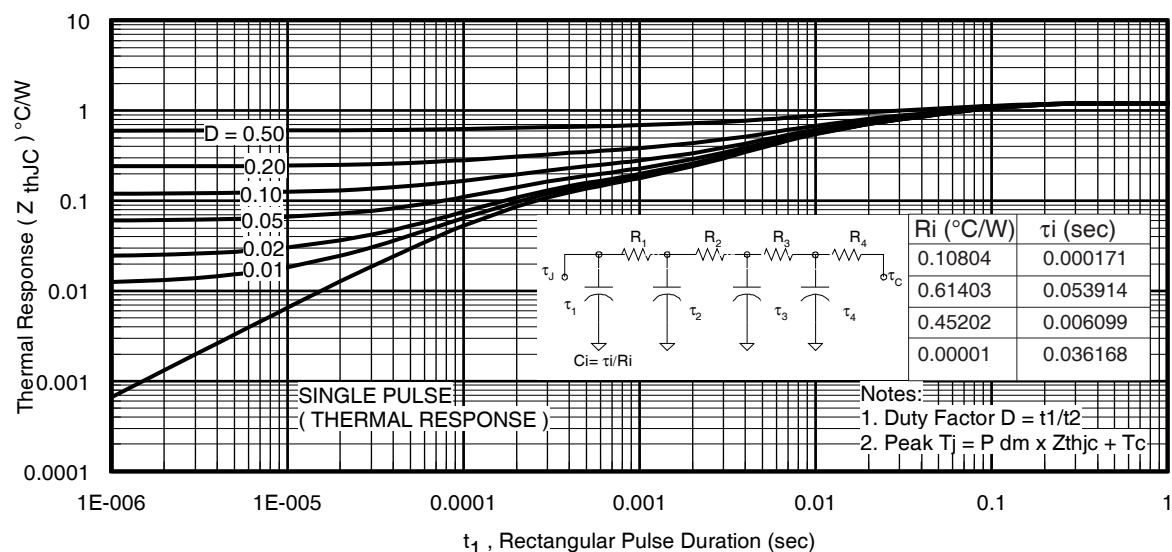

Fig 15. Maximum Effective Transient Thermal Impedance, Junction-to-Case
7. ΔT = Allowable rise in junction temperature, not to exceed T_{jmax} (assumed as $25^{\circ}C$ in Figure 15, 16).